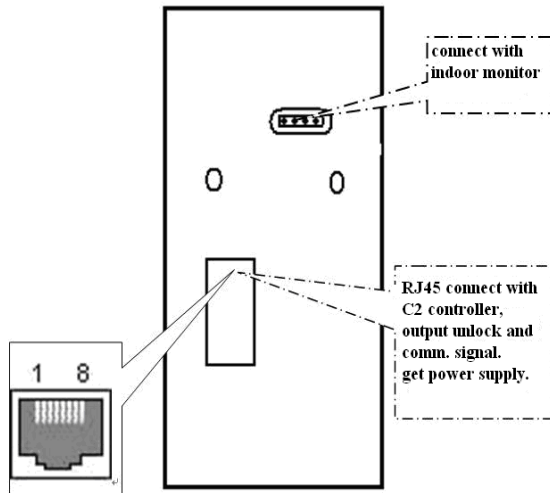

Figure1.fingerprint machine connection port
- 4**、Connect C2 and Video Phone with F701 fingerprint machine, like as Figure 1 show